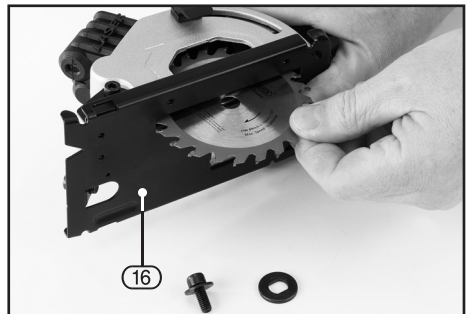

FIG.4
- Release the plunge guard using the lock off lever and plunge the base plate (16) to expose the saw blade (Fig.4).
- Press the spindle lock button (11) (until it engages) and tighten the saw blade locking flange bolt (7) securely.